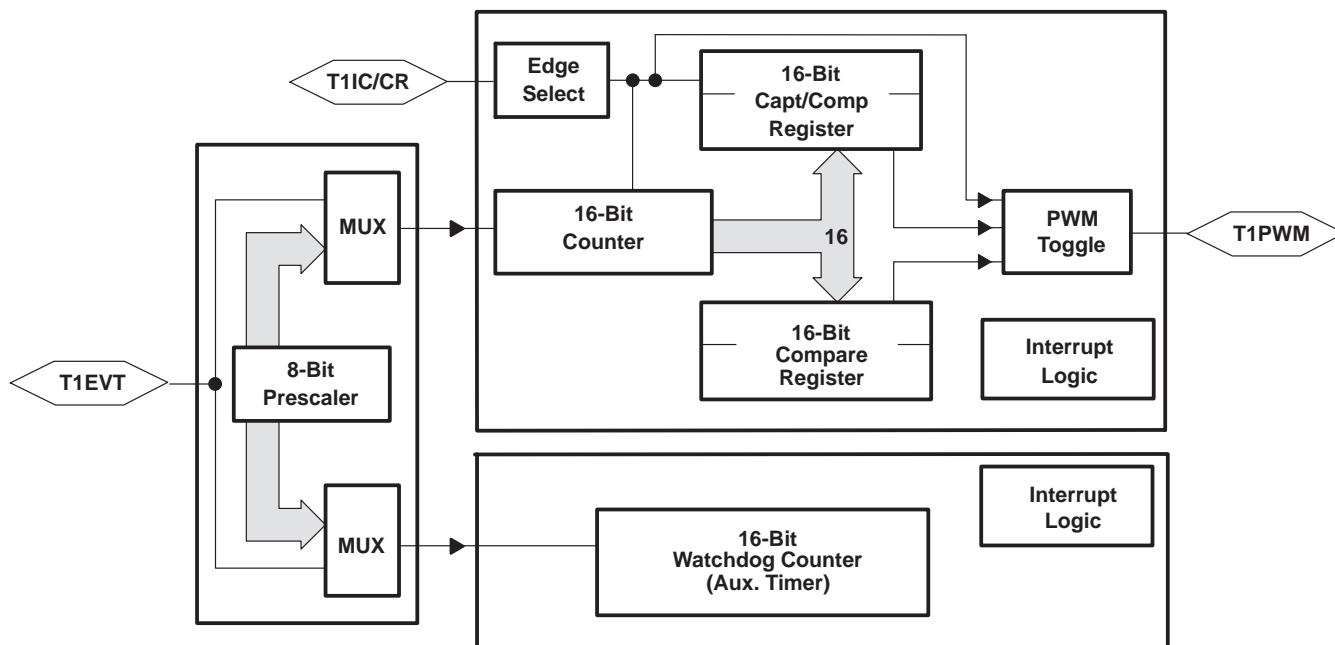

Figure 5. Timer 1 Block Diagram
The programmable timer 1 (T1) module of the TMS370Cx6x provides the designer with the enhanced timer resources required to perform real-time system control. The T1 module contains the general-purpose timer and the watchdog (WD) timer. The two independent 16-bit timers (T1 and WD) allow program selection of input clock sources (real-time, external-event, or pulse-accumulate) with multiple 16-bit registers (input-capture and compare) for special timer function control. The T1 module includes three external device pins that can be used for multiple counter functions (operation mode dependent) or used as general-purpose I/O pins. The T1 module is shown in Figure 5.